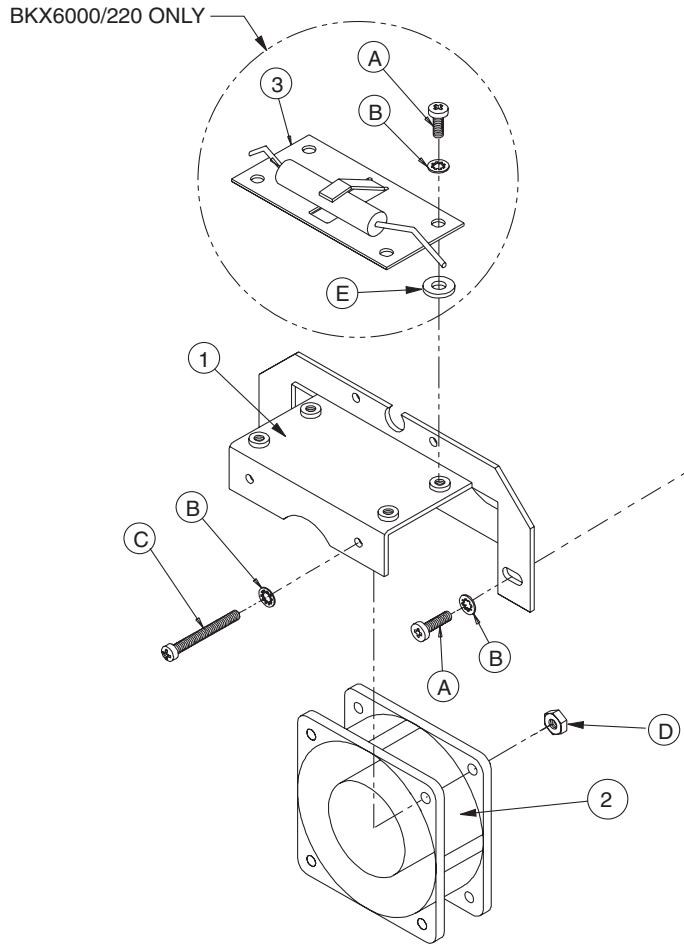

**Figure 5.** BKX4000, BKX4024 Blower Assembly Installation
3. Attach the blower assembly to the enclosure's rear plate using the hardware provided (refer to Figure 5, 6, or 7).